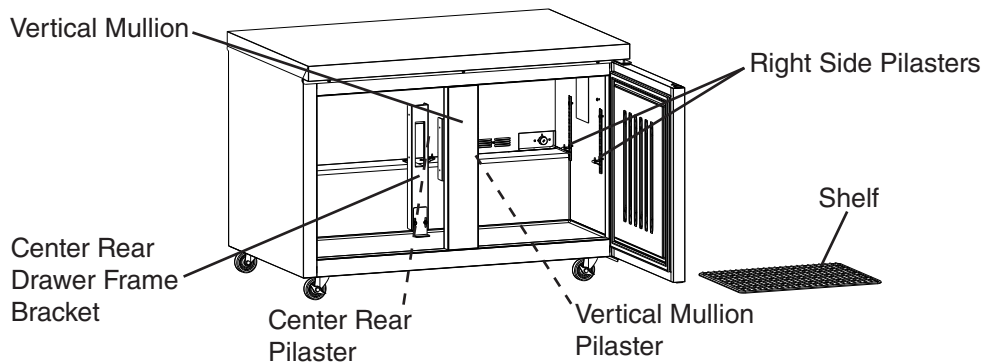

**Fig. 23**
5) Remove the shelf from the door section, then remove the pilasters. See Fig. 23.